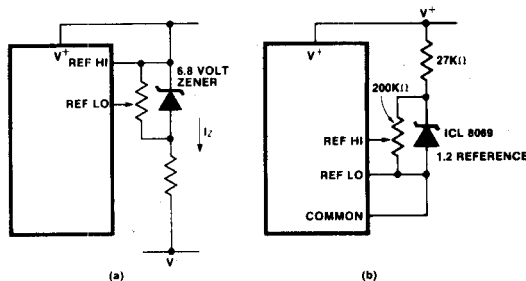

Figure 4: Using an External Reference
The limitations of the on-chip reference should also be recognized, however. The reference temperature coefficient (TC) can cause some degradation in performance. Temperature changes of 2 to 8°C, typical for instruments, can give a scale factor error of a count or more. Also the common voltage will have a poor voltage coefficient when the total supply voltage is less than that which will cause the zener to regulate (<7V). These problems are eliminated if an external reference is used, as shown in Figure 4.